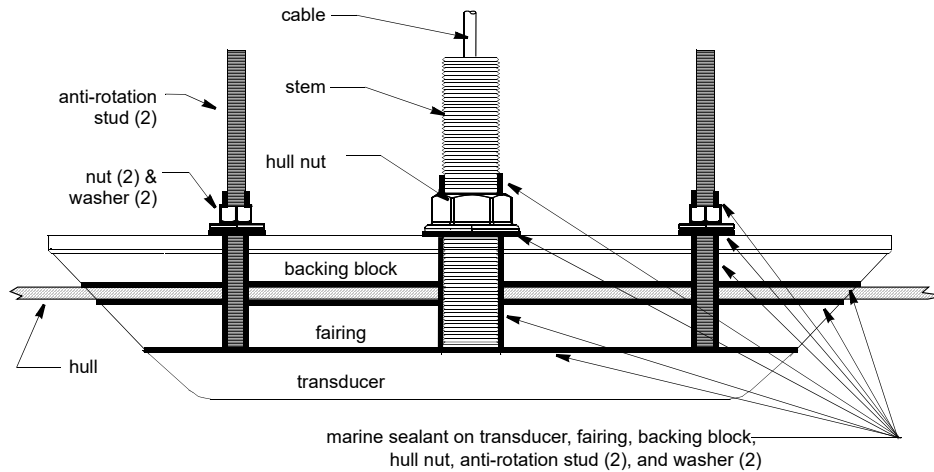

Figure 4. Bedding and installing with a fairing in a fiberglass or wood hull
3. Tilt the band saw table to the measured angle and secure the cutting fence (Figure 4).
1. Locate and drill the holes for the transducer stem and anti-rotation studs, using the fairing or the provided template on page 8 as a guide (Figure 4, 5, 6, or 7). Align the fairing or template parallel to the centerline of the boat (keel).
1. Remove the hull nut (Figure 4,5, 6, or 7).
1. From outside the hull, thread the cable through the mounting hole (Figure 4, 5, 6, or 7).